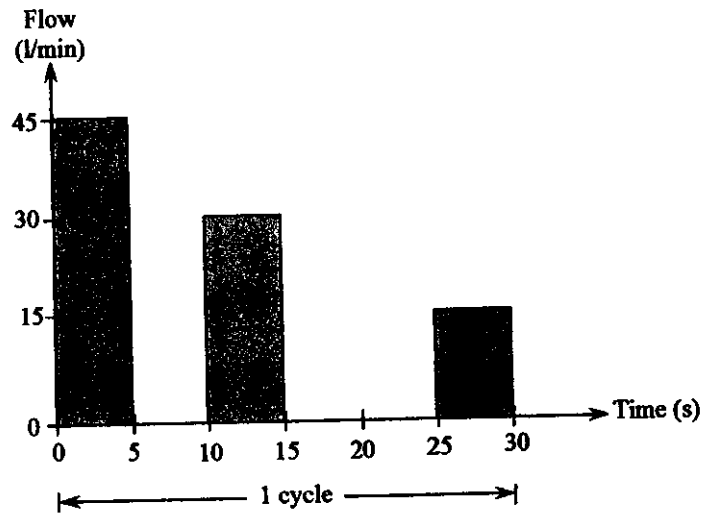

Fig. 1.
b) A pump/accumulator power pack is to supply the fluid flow demanded by a hydraulic system as shown in Fig. 1. The system working pressure is 100 bar and the maximum pressure at the accumulator is 180 bar. Assuming the accumulator pre-charge pressure is 95% of its maximum working pressure.